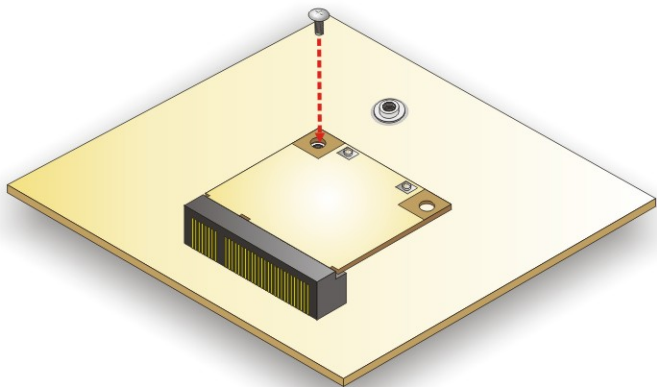

Figure 3-11: Securing WLAN Module
Step 7: Secure the WLAN module with the previously removed retention screw (**Figure 3-11**).